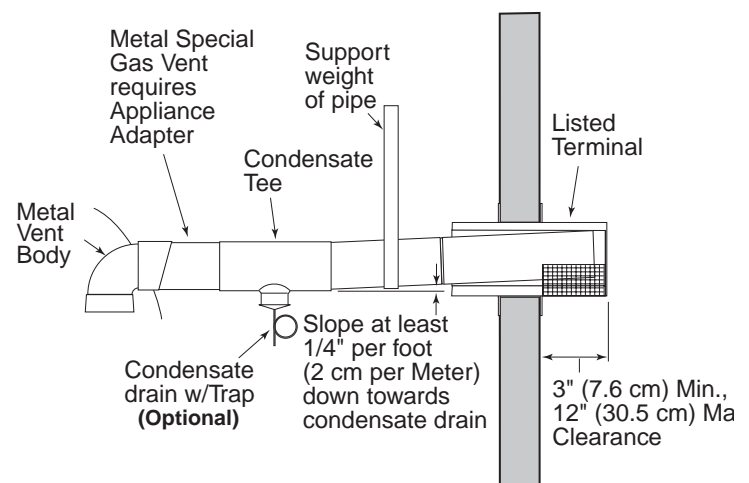

Figure 18.
- at least 3” and at most 12” out from the wall (see Figure 18), following the vent manufacturer’s instructions